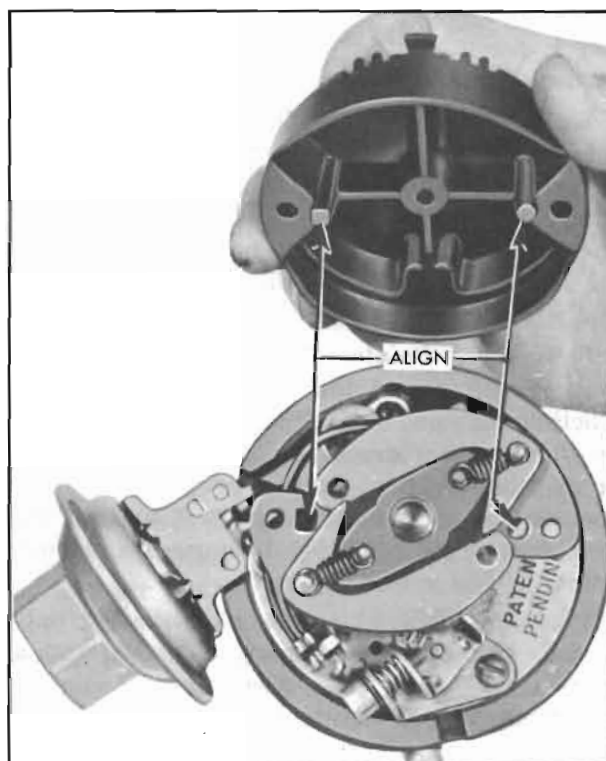

Figure 10-49—Removing and Installing Rotor
4. Remove rotor from end of distributor shaft by removing two attaching screws, lock washers, and flat washers. See figure 10-49.
NOTE: The square and round lugs on the bottom of the rotor must be positioned in the corresponding holes in the weight base plate. See figure 10-49.